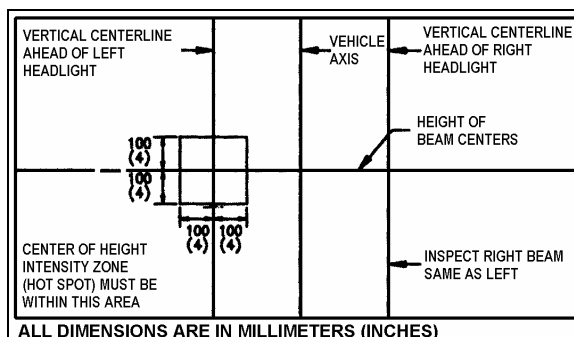

FIGURE 34: AIM INSPECTION LIMITS FOR UPPER-BEAM HEADLIGHTS 06505
7. The inspection limits for high-beam headlights shall be with the center of the high-intensity zone from 10 cm (4 in) up to 10 cm (4 in) down; and, from 10 cm (4 in) left to 10 cm (4 in) right on a screen at 7.6 m (25 ft) (Fig. 34).